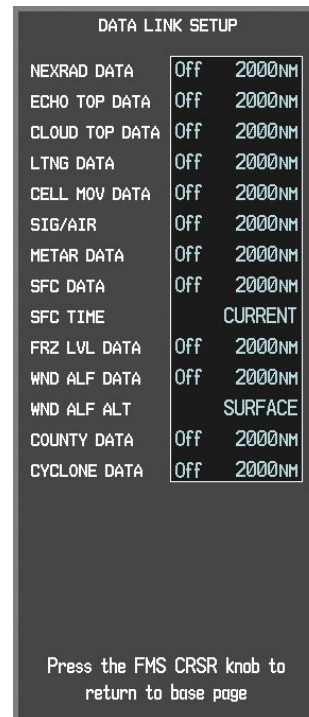

Figure 6-6 Weather Data Link Page Setup Menu
- 4) Turn the large **FMS** Knob or press the **ENT** Key to scroll through product selections (Figure 6-6).